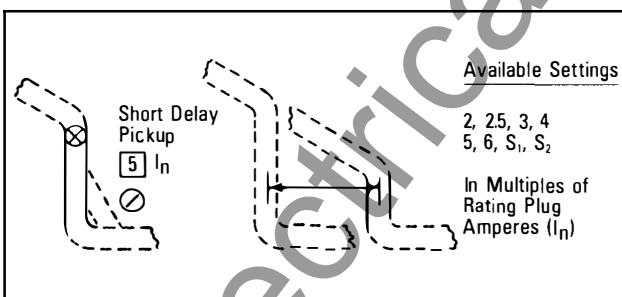

Fig. 4.3 Short Delay Current Pickup Settings
As illustrated in Fig. 4.3, eight (8) available settings range from 2 to 6 (I_N) with two variable settings of S1 and S2. These variable settings depend upon the type of circuit breaker in which the trip unit is installed. Specific information on these settings is given in the supplemental instruction leaflet referenced in Sections 9.1 and 9.2 that is supplied with the circuit breaker. Specific information is also shown on the rating plug and on the applicable time-current curve.